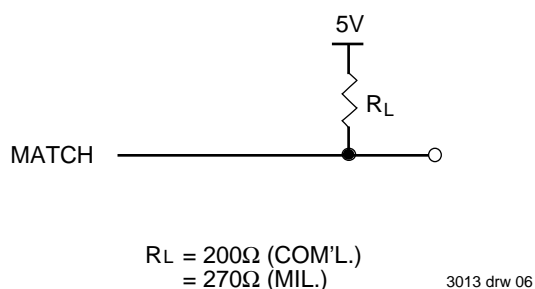

Figure 3. AC Test Load for MATCH
- This parameter is guaranteed with the AC Load (Figure 3) by device characterization, but is not production tested.